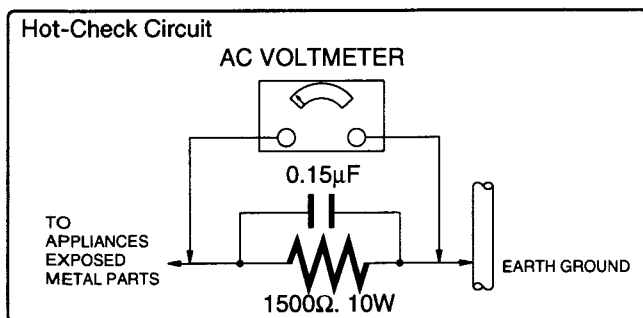

Figure 1
LEAKAGE CURRENT HOT CHECK (See figure 1.)
2. Connect a $1.5K\Omega$, 10 watts resistor, in parallel with a 0.15 microfarad capacitor, between each exposed metallic part on the set and a good earth ground, as shown in figure 1.